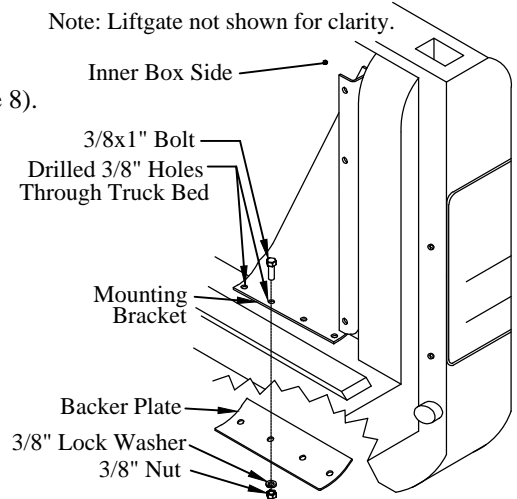

Figure 8: Mounting bracket and backer plate.
Choose two of the four holes provided with no obstructions on the underside (Figure 8).
- (2) 3/8"x1" hex head bolts on the top-side (Figure 8).
- (1) backer plate, (2) lock washers, and (2) hex nuts on the under-side (Figure 8).